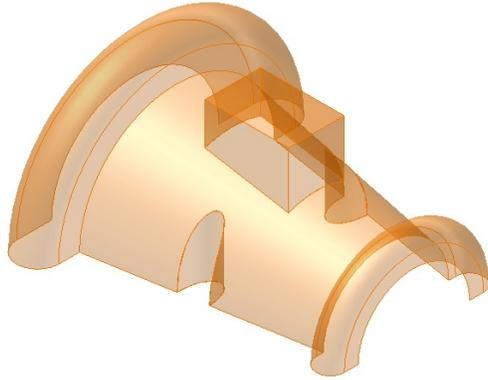

Figure 14-65 Model after stitching surfaces
- j. Stitch all surfaces together and fillet all sharp edges, refer to Figure 14-65.
1. Invoke the **Stitch Surface** tool from the **Modify** panel of the **Surface** tab. Select all the surfaces so that they get stitched together. Next, choose **Apply** and then **Done** from the **Stitch** dialog box. Figure 14-65 shows the model after stitching surfaces.